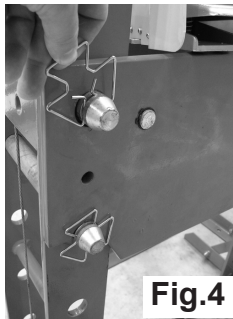
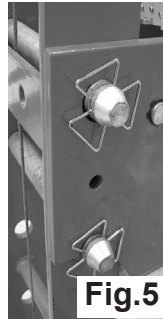

Fig.4
Fig.5
- 4.2.2 Set the bed frame at the desired height, if adjustment is required, turn the hand winch until the cable just takes the weight of the bed frame, remove the safety clips (13) from the back of the pins (12), see Fig.4 and withdraw the pins. Use the hand winch to raise or lower the bed frame to the height required, insert pins and safety clips (Fig.5). Slacken off the hand winch so that the pins are taking the full weight of the bed frame.